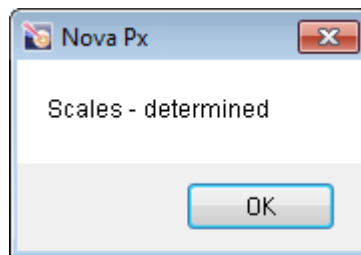

Fig. 7-21. Message box
6. This will open a Message box (Fig. 7-21), close this box by clicking the **OK** button.